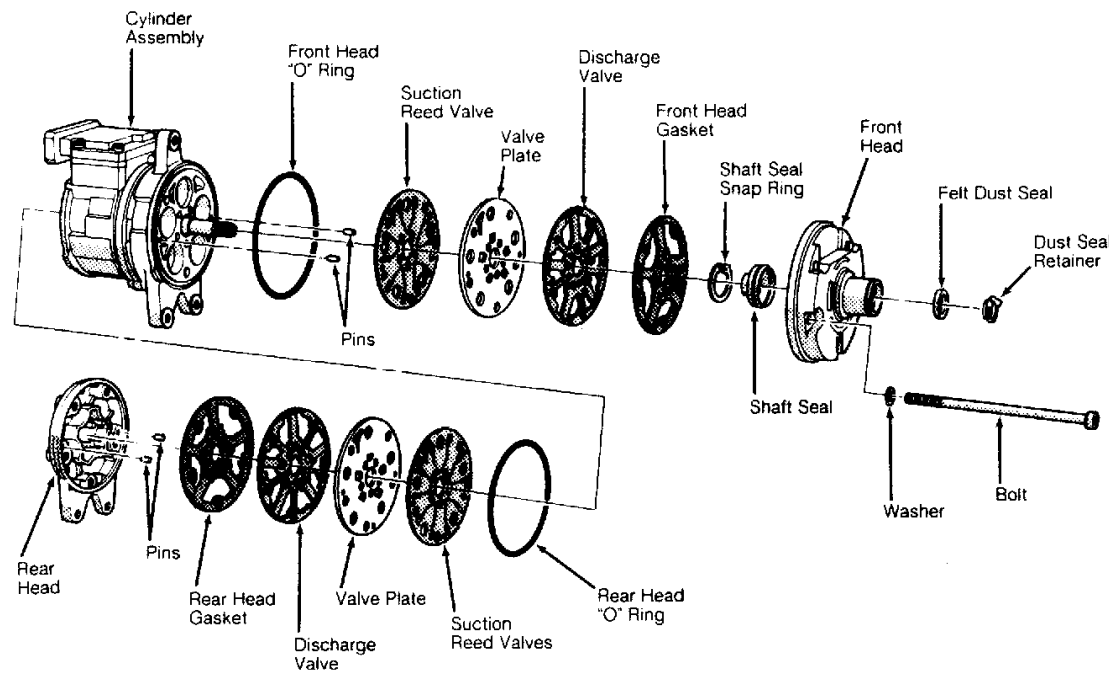

Fig. 4: Exploded View of Nippondenso 10PA17 & 10PA17A 10-Cyl Compressor
- Remove clutch assembly. See NIPPONDENSO 10PA17 & 10PA17A CLUTCH ASSEMBLY R & I in this article. Remove front head retaining bolts. Separate front head from compressor, using care not to scratch sealing surface. See Fig. 4 .